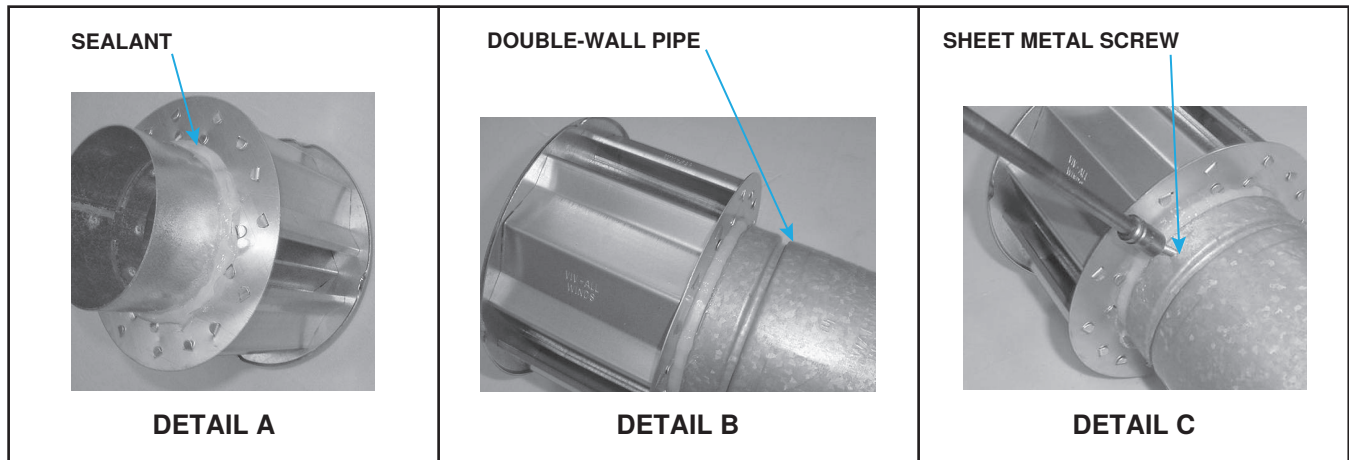

Figure 16. Connecting Double-Wall (Type B) Pipe to Vent Cap
- Apply continual 3/8-inch bead of silicone sealant around circumference of vent cap collar (see Figure 16, DETAIL A) to prevent any water inside vent cap from running down double-wall pipe.
- Before sealant has any time to dry, insert collar on vent cap as far as possible inside inner wall of double-wall pipe (see Figure 16, DETAIL B).
- Secure vent cap to double wall pipe by drilling hole and inserting 3/4-inch-long sheet metal screw into vent cap collar (see Figure 16, DETAIL C). Do not overtighten screw.